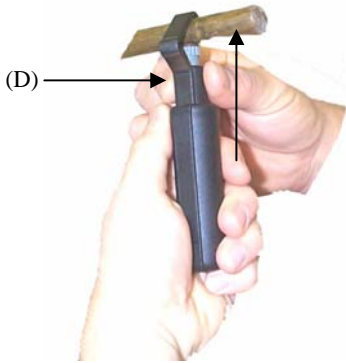

Fig. 5
Step 5. (Fig. 5) For **Spiral Cut**, pull up on the collar (D) of the tool to set tool blade at an angle for spiral cut. In this position (Fig. 6), the tool will have a small space (E) exposed between the collar and the body indicating the tool is set for spiral cutting.